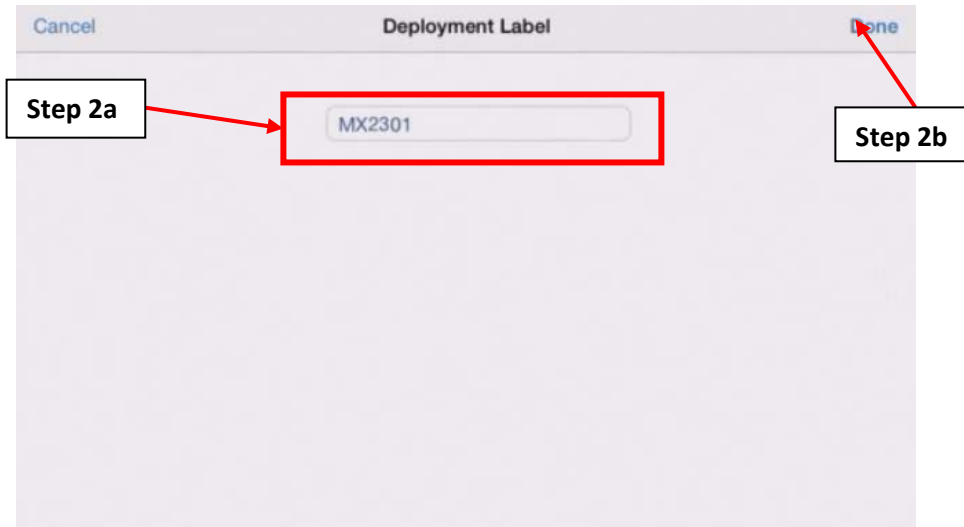

Figure A.7.5: The “Deployment Label” screen.
2. Tap on the "Label" option, which will open the "Deployment Label" screen as shown on Figure A.7.5.
- b. Tap "Done" (Figure A.7.5) to go back to the "Configure" screen.